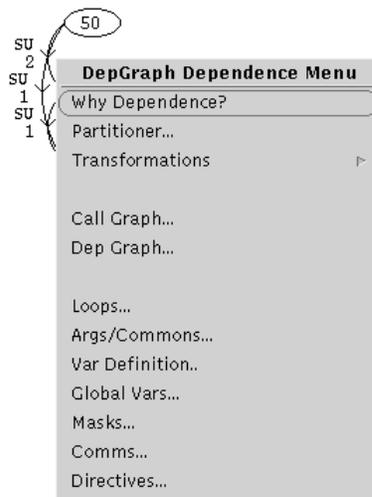

Figure T4-2: The DepGraph Dependence Menu after clicking on a dependence edge.
In the DepGraph window, click the 52 → 55 dependence edge with the right-mouse button and load the "**Why Dependence?**" window (see Figure T4-2). Apply the **Remove This Dependence** button and confirm the action. Save to a new database if you like. Click **Update Directives** to re-perform the directives analysis and a pipeline is automatically recognized in routine CALCP1.
- Inspect code sections.** Restart CAPO and load back teamke1_full.dbs (*Load Database* in the **File** menu). In the **View** menu, click **Directives** to perform the directives analysis. In the **Directives browser** window, choose scope **All Routines**, loop filter **Totally Serial** and loop "CALCTE:2/12/42: DO 100 J=2,NJ". Click the **Why** button and the **WhyDirectives** window as shown in Figure T4-2 will be displayed. There are six variables with loop-carried true dependencies, five of which have a determinable dependence vector length as indicated by "[1]". This is an indication of a potential pipeline loop if changes can be made to variable UN and two other variables VE and SMPW presented in the **Output-dep.** variable list.